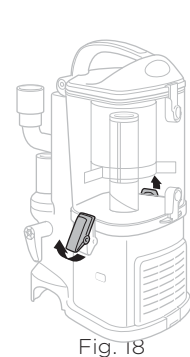

Fig. 18
- 1 Remove the dust cup by lifting the side latches. **(Fig. 18)**